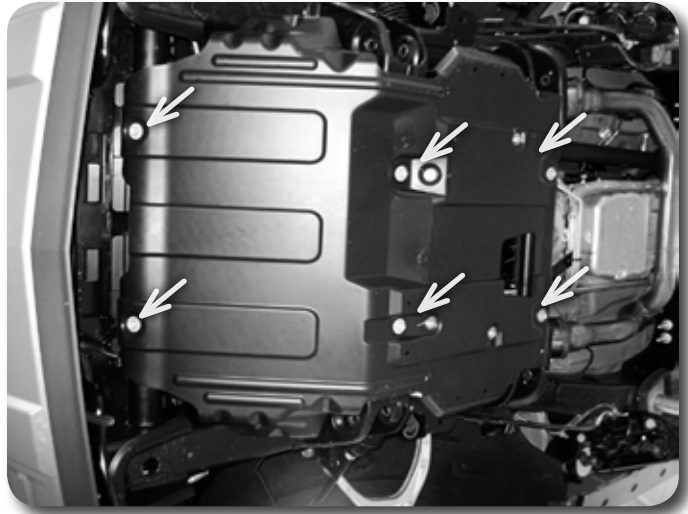

Figure 2
5. Remove the splash guard from the vehicle. **Figure 2**.